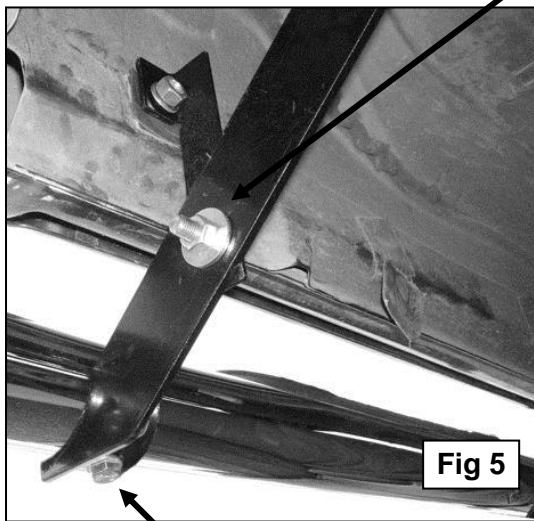

Fig 5
8. With assistance, carefully position the driver Sidebar onto the Mounting Brackets. Partially attach the Sidebar to the front and rear Mounting Brackets with the included (4) 8mm x 25mm Hex Head Bolts, (4) 8mm Lock Washers, and (4) 8mm Flat Washers, **(Figure 5)**. Do not tighten hardware at this time.